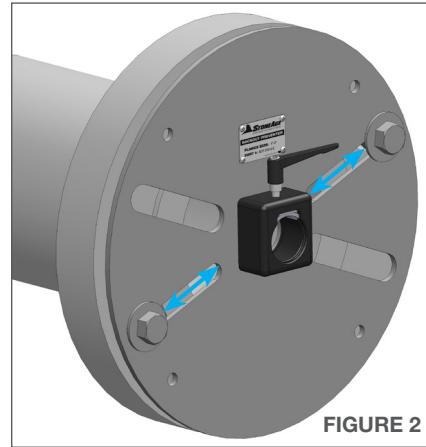

FIGURE 2
2. Adjust the Quarter Plate Flange Mount by sliding it along the slots to center the inside diameter of the Hinge Clamp with the inside diameter of the pipe. Tighten all hardware to secure in place. (**Figure 2**)
2. Align the appropriate slots or pre-drilled holes to the hole pattern on the flange. Adjust the Flange Mount Plate by sliding it along the slots to center the inside diameter of the Hinge Clamp with the inside diameter of the pipe. Tighten all hardware to secure in place. (**Figure 2**)
2. Pull excess strap through the Winch Assembly and tighten down with the Ball End Handle. (**Figure 2**)
2. Release the Adjustable Handle on the BOP 070 Hinge Clamp to access the 4 socket head cap screws. Locate the side of the BOP 030 Collet Block Assembly with 4 threaded holes. Orient the Hinge Clamp so that the hinge is on the right. Fasten the Hinge Clamp Assembly to the Collet Block Assembly using the 4 supplied socket head cap screws. (**Figure 2**)
- Pull out the Quick Release Pin and remove the Collet. Feed the male hose end into the guide tube, through the rollers and out the end of the BOP 081-6 Snout Tube. (**Figure 2**) Go to page 23, “Roller and Collet Selection” to determine the appropriate size Rollers and Collets for the high pressure hose diameter.